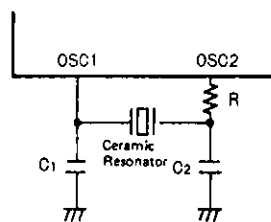

Fig. 3 Ceramic Resonator Oscillation Circuit
**Note 1:** When oscillated internally under the oscillating conditions in Fig. 3, up to the oscillation amplitude generated is allowable.